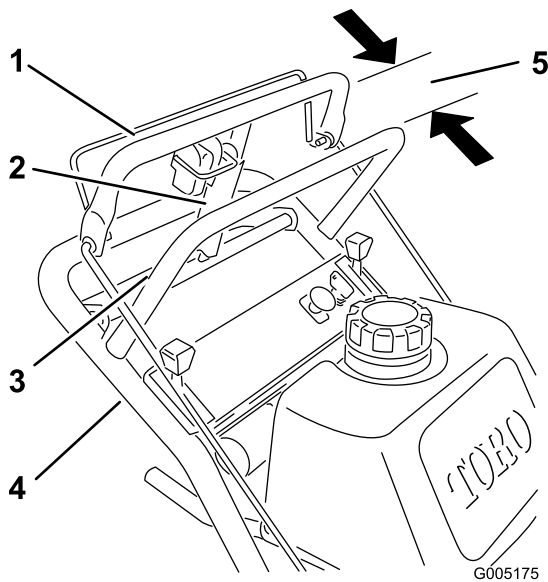

Figure 11
4. Check the gap between upper control bar and fixed bar with wheel drive fully engaged. Gap should be approximately 1 to 1-1/4 inch (25-32 mm) (Figure 11).